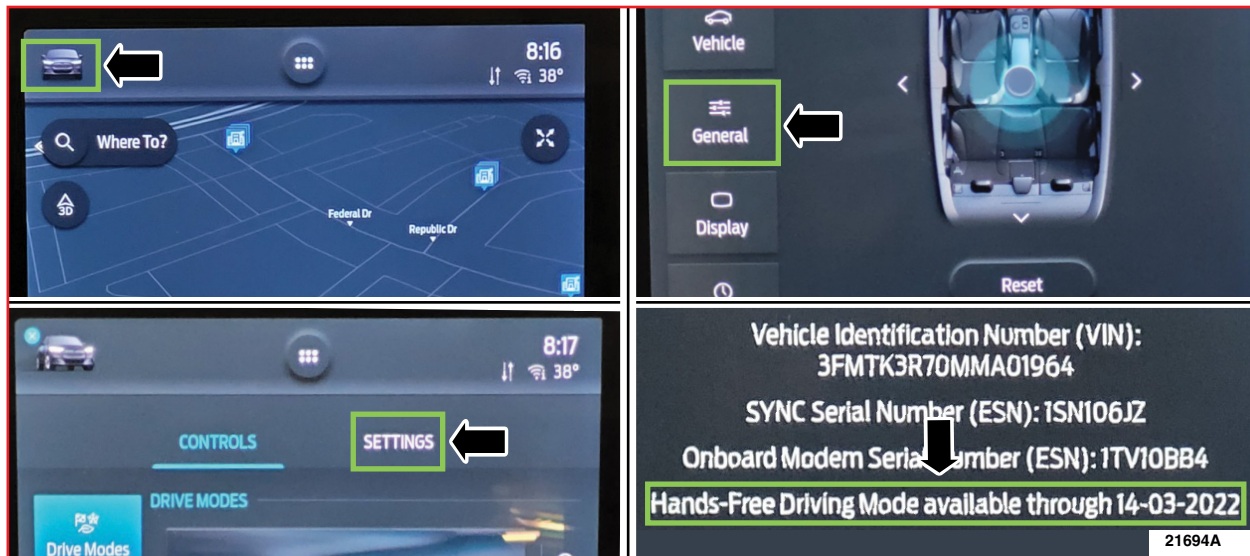

FIGURE 7
- See Figure 7 below for Mach-E, F-150 similar.